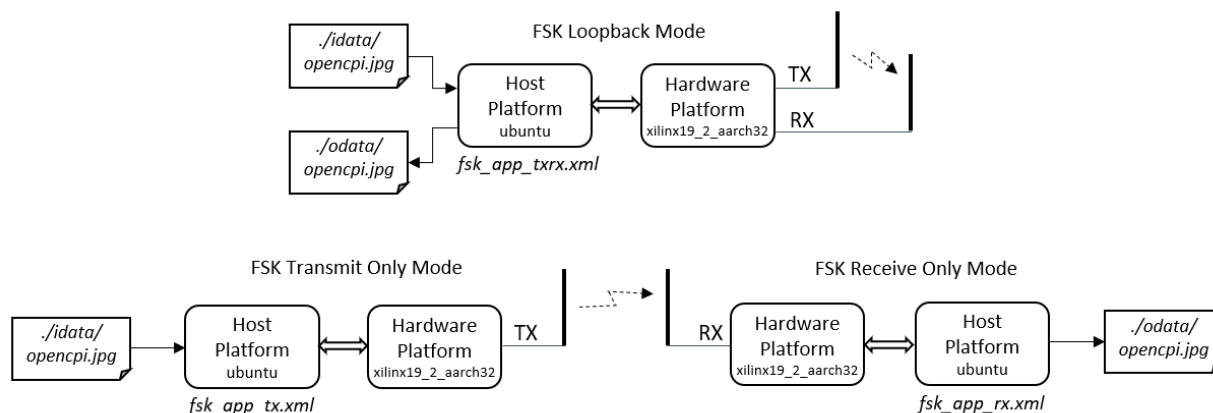

Figure 1. FSK Application Modes.
A user may execute each application using the 'ocpirun' utility or using the accompanying OpenCPI Application Control Interface (ACI) program. Instructions to execute either approach will be provided in this guide. With these applications, a user specified data file may be transmitted between the transmit (TX) port and receive (RX) port of a single OpenCPI platform or between the TX port of one OpenCPI platform to the RX port of a different OpenCPI platform, as shown in Figure 1. The loopback mode is beneficial for those that may only have access to a single platform